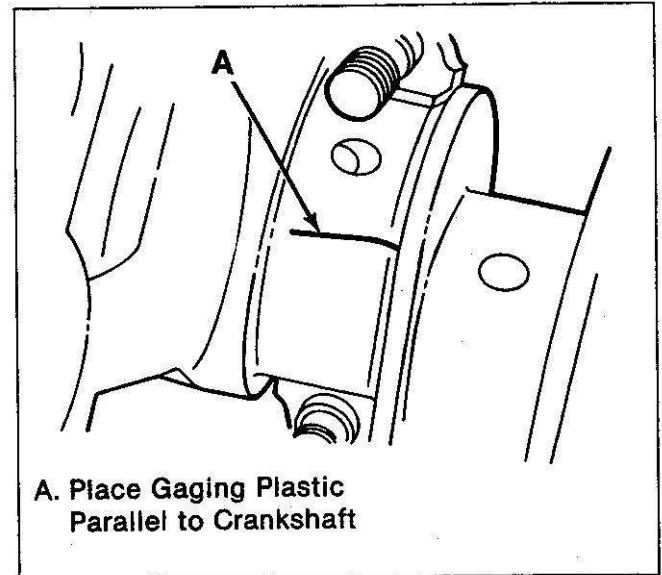

Figure 68. Placing the Gaging Plastic on the Journal
2. A piece of plastigage the length of the bearing (parallel to the crankshaft) on the journal (figure 68). Do not turn the crankshaft with the gaging plastic installed.